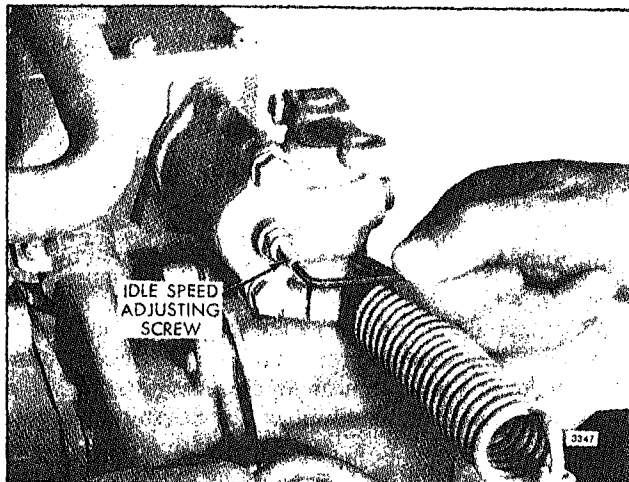

Fig. 7 - Adjusting Idle Speed
3. Loosen the lock nut and turn the idle speed adjusting screw (Fig. 7) until the engine is operating at approximately 15 rpm below the recommended idle speed. The recommended idle speed is 550 rpm, but may vary with special engine applications.